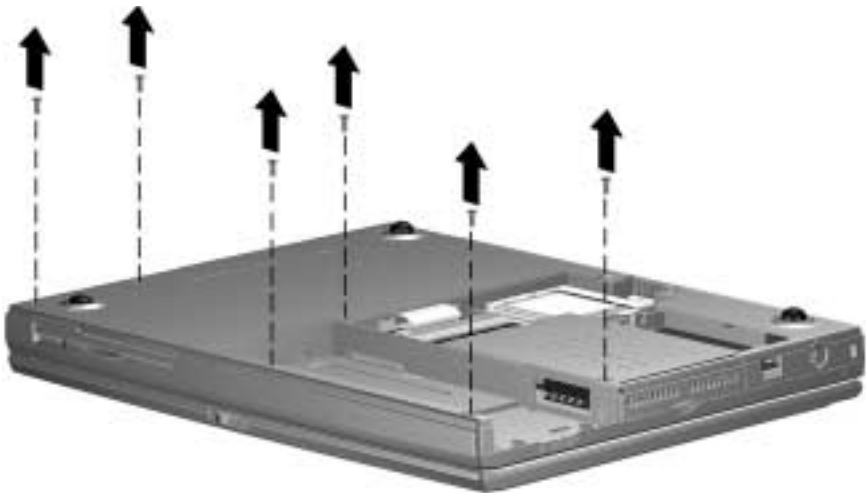

Figure 5-15. *Removing the Top Cover Screws*
3. Remove the six screws securing the top cover to the base assembly (Figure 5-15).